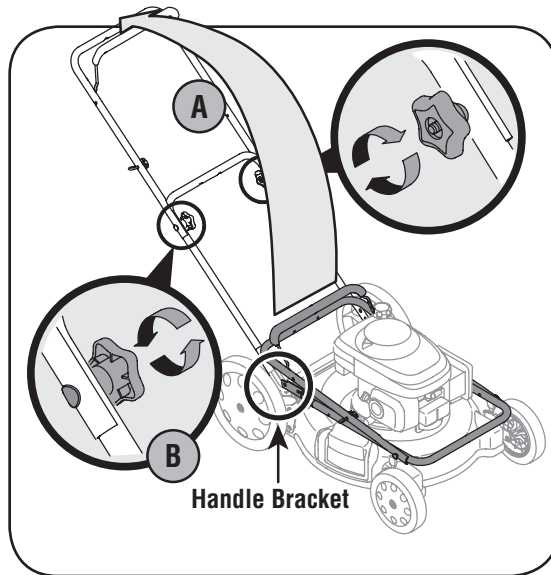

Figure 2
- Pull up and back on the upper handle to raise the handle from position A into the operating position. See Figure 2.